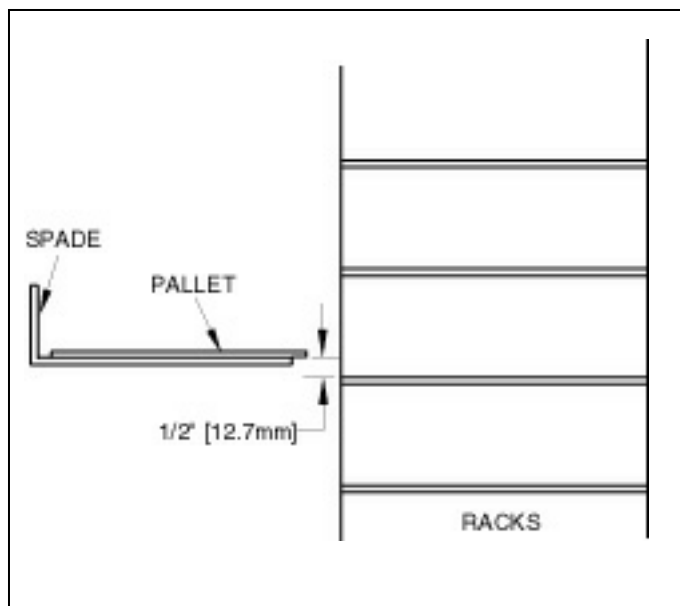

Figure 2.13 SWITCH LS-13 ADJUSTMENT.
2.1.7.6 Manually move the spade (see section 4.2) until it reaches the rack but does not enter. Then move spade up and down until bottom of pallet is 1/2" [12.7mm] above rack shelf (see figure 2.13). Then move cam until switch LS-13 is actuated (screen will indicate that switch has been tripped).